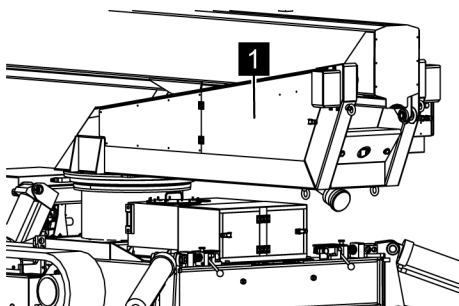

*Fig. 78: Radio control*
1. ➤ Switch off the radio control. To do this, turn the rotary switch (Fig. 78/1) to the [0] position.